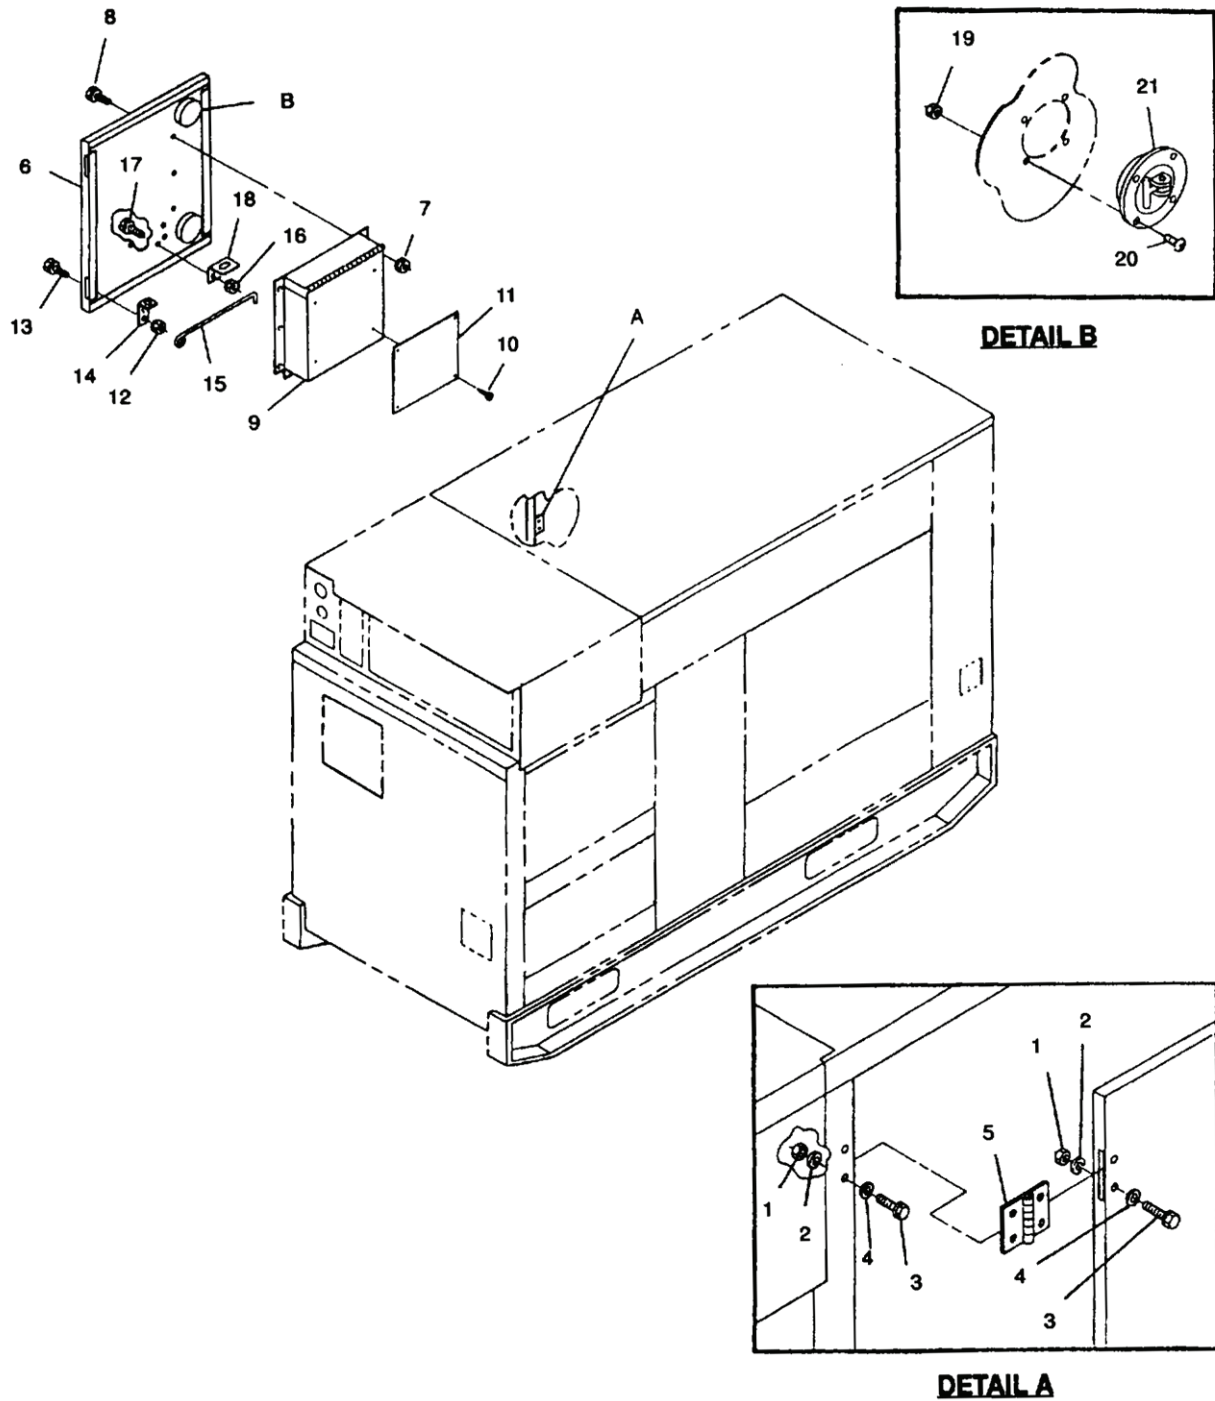

Figure 1. Generator Set Access Doors.
1. Install latches (Figure 1, Item 21) in left rear engine access door (6) with screws (20) and nuts (19).
2. Install bracket (18) on engine access door (6) with bolts (17) and assembled nuts (16).
3. Install bracket (14) and holding rod (15) on engine access door (6) with bolts (13) and assembled nuts (12).
4. Install fuel system diagram (11) on document box (9) with rivets (10).
5. Install document box (9) on engine access door (6) with bolts (8) and assembled nuts (7).
6. Install left rear engine access door (6) and hinges (5) on generator set with bolts (3), washers (4), new lockwashers (2), and nuts (1). Close left side engine access doors.